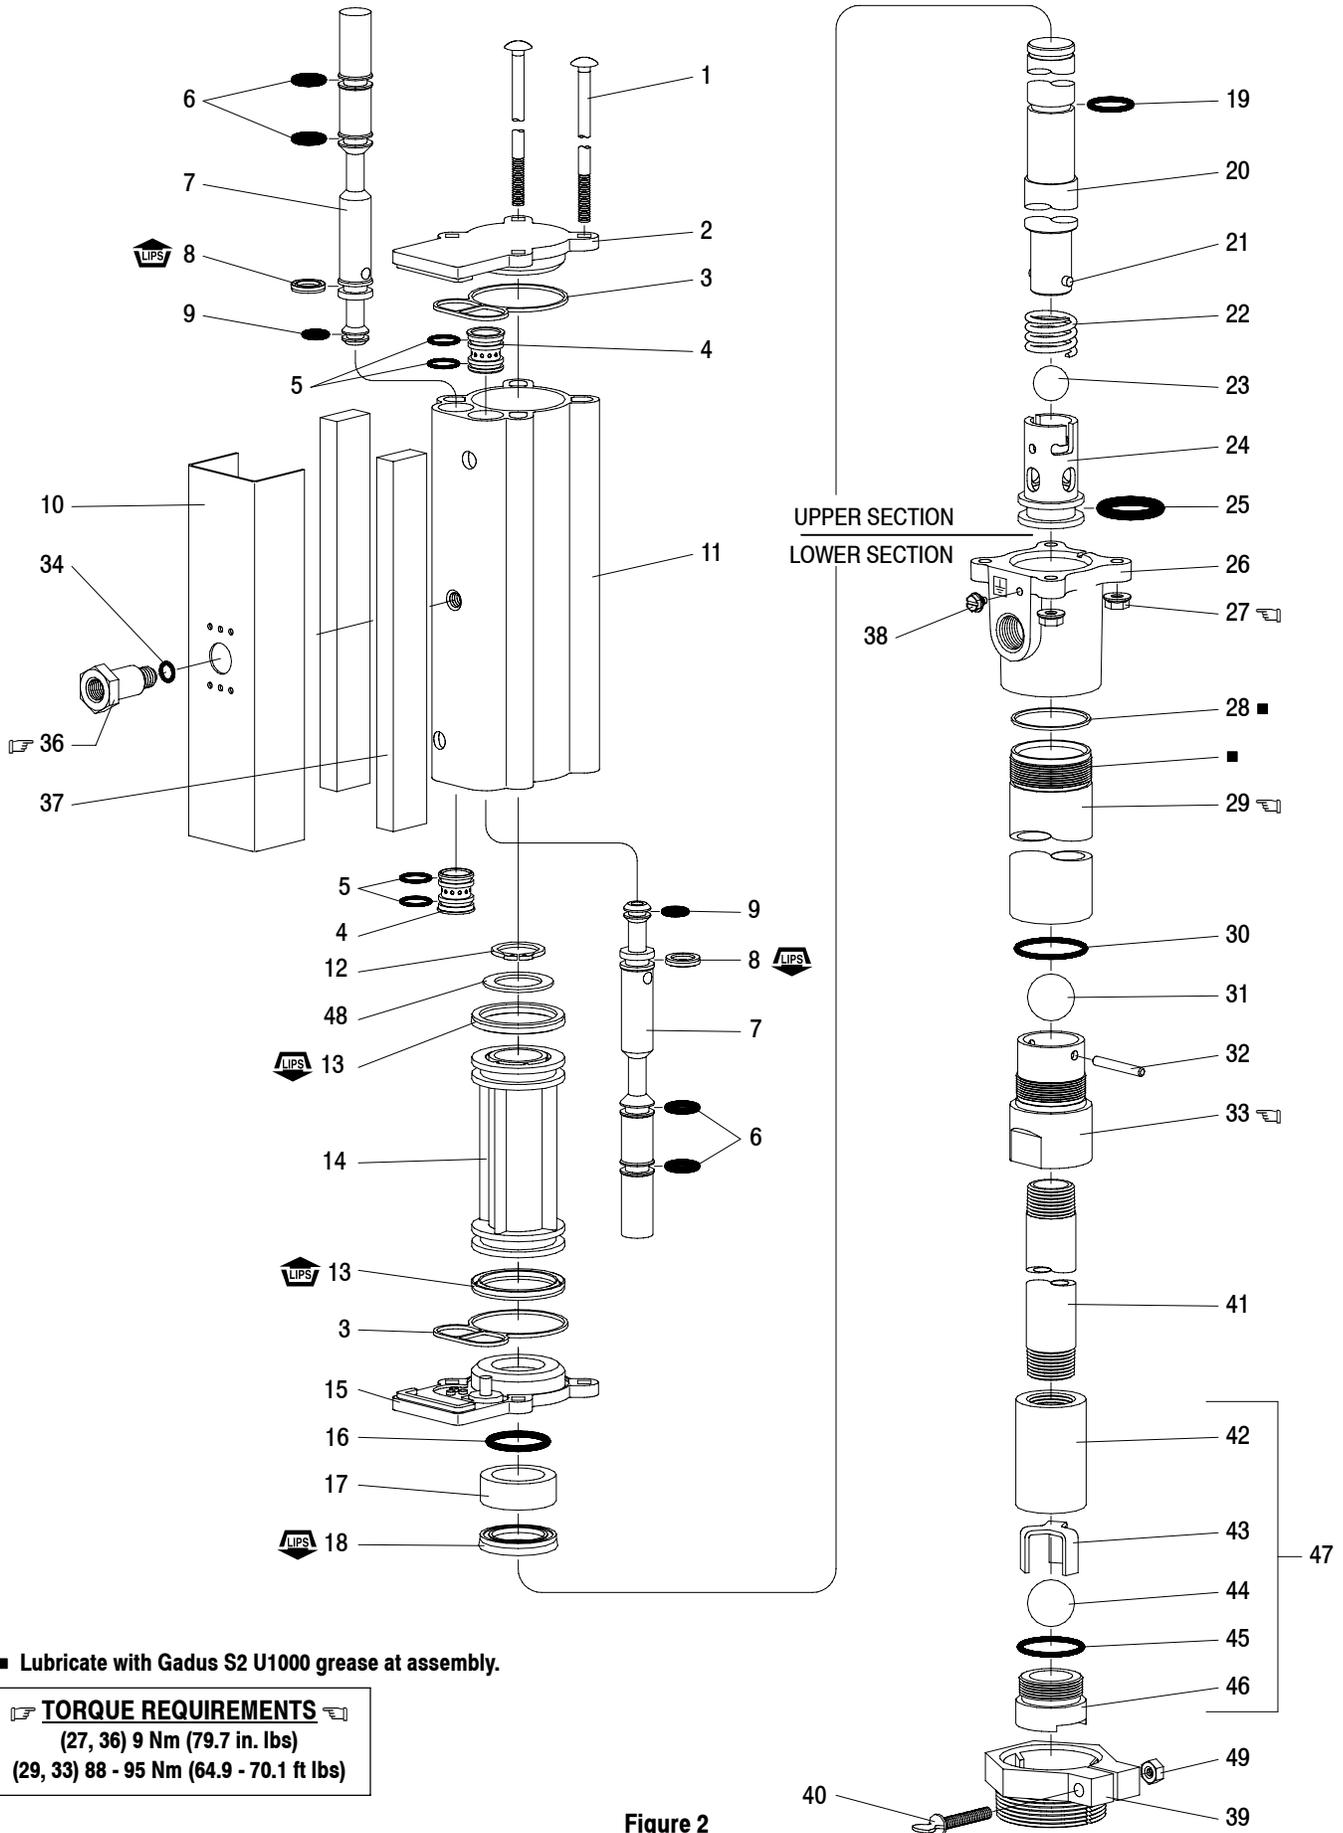

Figure 2
NOTICE: The unique design of this pump allows for quick basic pump service without total removal from the drum (refer to the views below). **DISASSEMBLY - All threads are right hand. Refer to figure 2. These procedures are for the installation of repair kit parts. Disconnect air supply and relieve all system pressure prior to servicing.** Carefully remove the parts, inspect parts for damage, nicks or excessive wear and determine if any parts will need replacement.
Note: Refer to the illustration (figure 2) for "U" cup lip seal direction.
1. Replace the seals on both the (7) spools and (4) sleeves.
2. Locate the valve chamber on the (11) cylinder where the 3/8" dia. hole is located and install one of the (4) sleeves. Insert the (7) spool from the opposite end. Next, install the remaining sleeve and spool.
3. Replace the (3) track gasket and install (2) cap.
4. Replace the (13) piston "U" cups (refer to figure 2 for proper orientation). Replace the (19) "O" ring and assemble (14) piston to (20) piston rod and retain with (48) washer and (12) retaining ring.
6. Replace the (3) track gasket and install the (15) cap. Install the (16) "O" ring onto the piston rod, replace (17) bushing and (18) packing.
7. Replace the (25) "O" ring and re-attach the (24) inner check.
8. Slide the pump assembly back into the (26) base / lower pump section. Press the sections together and align the air inlet and pump outlet as required and replace the four (1) bolts and (27) nuts (tighten to 9 Nm (79.7 in. lbs)).